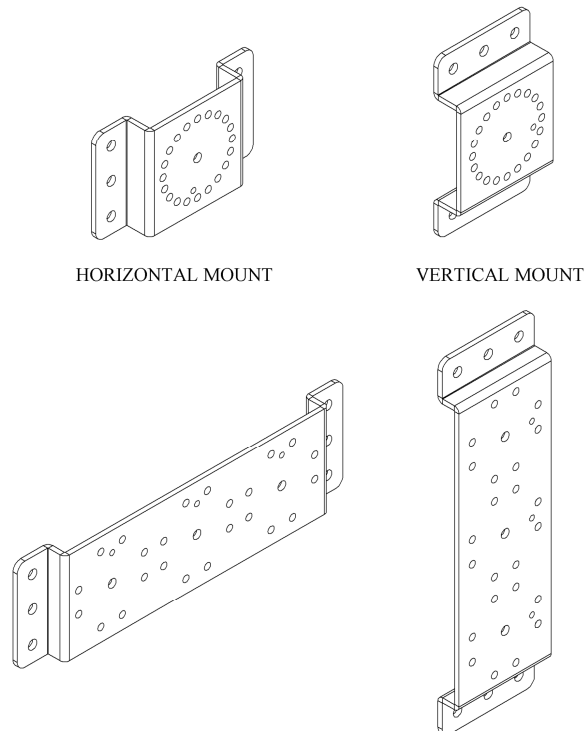

Figure 1 - P1 and P3 mounting plates and positions
All of these assemblies are SM (Side Mount with Riser) types which include either the P1 mounting plate which supports one riser with one arm, or the P3 mounting plate which can support either one or two separate risers with arms (See Figure 1).
1. The SM mounting plates (See Figure 1) feature either one or three repeating patterns of 1/4"-20 threaded holes for the insertion of the four mounting screws that attach the SB (Stand Off) brackets with the risers and arms to the mounting plate. The mounting screw pattern allows the SB brackets with the risers and arms to be removed and remounted to the plate. The risers provide the first pivot point for the arms allowing them a full range of side to side motion. The arms are attached to the top of the riser with a 5/16" bolt that is secured with thread locking compound and is not intended to be removed or adjusted in the field.